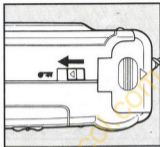

Fig.12 Abb.12 圖.12
1. After the end of the film has been reached or if you wish to rewind the film before reaching the end of the film, push the Film Rewind Button in the direction of the arrow. The film will automatically rewind. **(Fig. 12)**